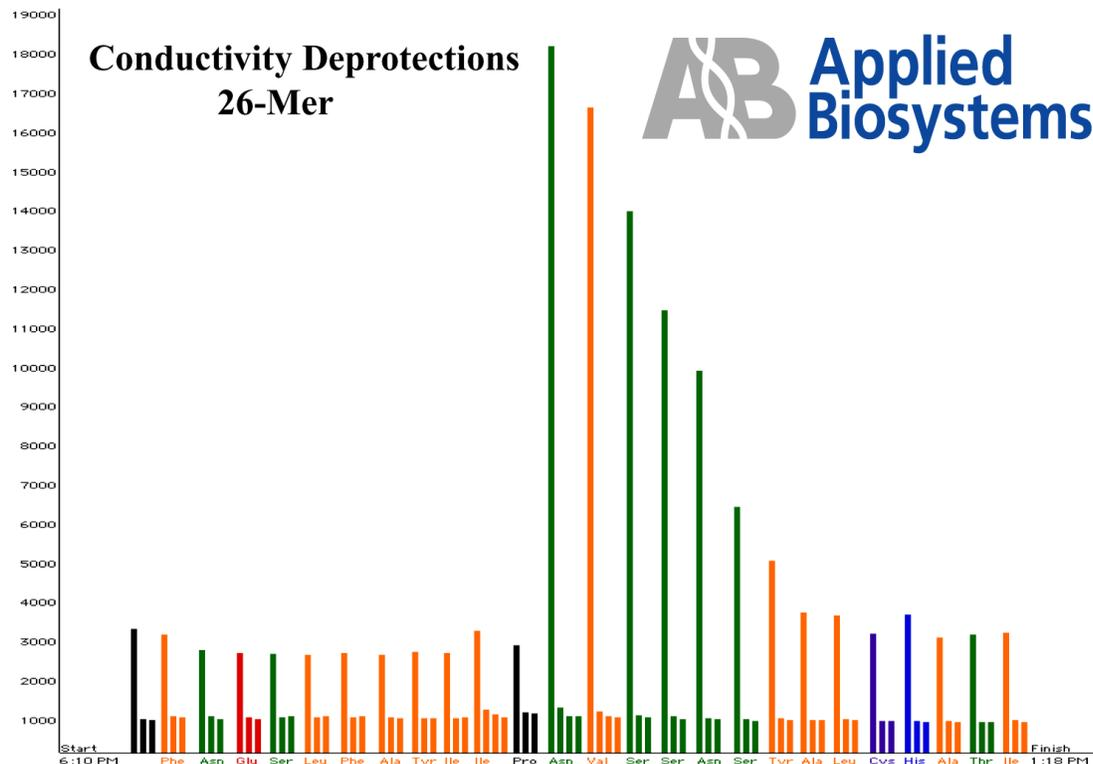

Figure 3-7 A major change in the conductivity deprotections of the ICAT[®] reagent 26-mer takes place at Asn (14).
The conductivity profile (Figure 3-7) shows a very large increase in the initial deprotection peak at Asn(14) compared to the first peaks of the several C-terminal residues. The first deprotections following Asn are also very tall and then the peaks decline in height until they approach the profile displayed at the beginning of the synthesis.